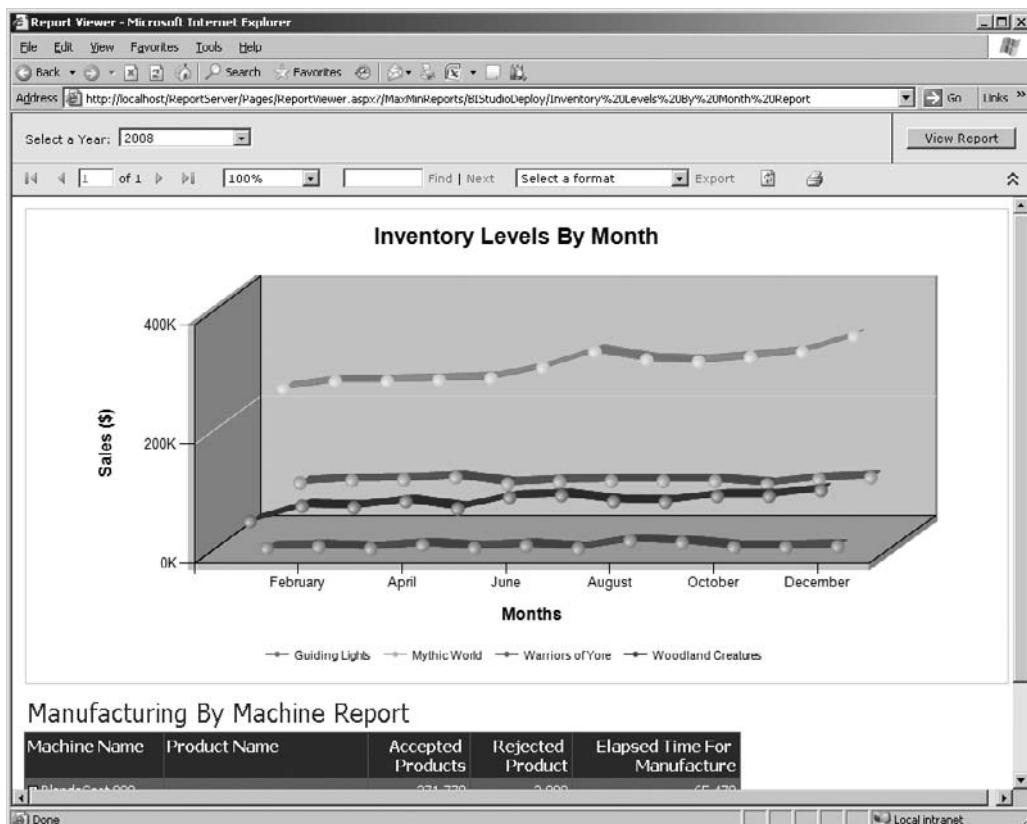

Figure 18-5 A URL-rendered report
3. Click Go. The Inventory Levels By Month Report appears in the browser, as shown in Figure 18-5. Note the parameters area and the report toolbar in the browser above the report.